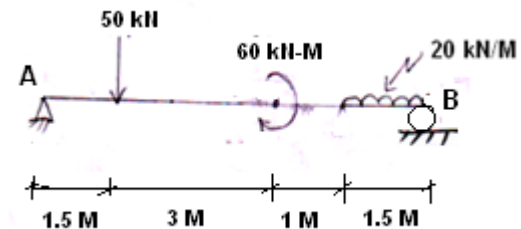

Fig. 9
Q.10	(a) Define Resultant and Equilibrant. (b) Find the reactions of the beams shown in fig.9 .